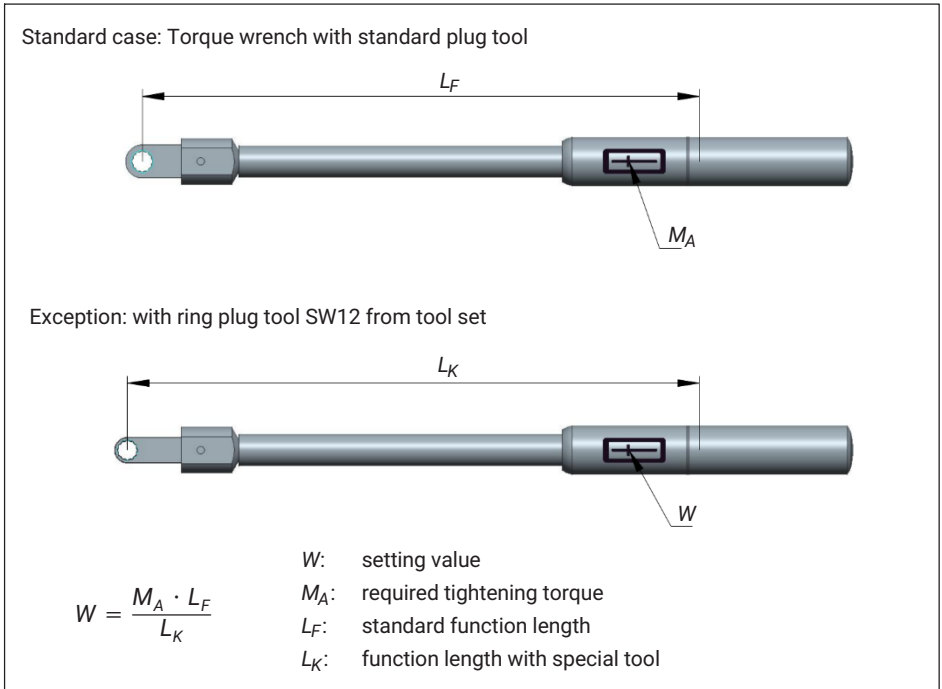

Fig. 5.3 Adjustment of setting value W of a torque wrench to the function length L_K
- ▶ If required, calculate the adjusted setting value of the torque wrench (see Fig. 5.3) and set it accordingly.